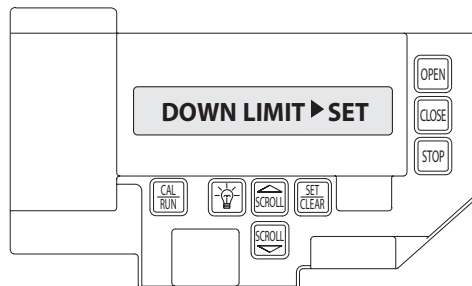

Figure 8
- 4) Press SET/CLEAR  key to switch display to "UP LIMIT>SET " or "DOWN LIMIT>SET ." **Figure 8.**
- 2) Press SCROLL  (up or down) until display reads "UP LIMIT>SET " or "DOWN LIMIT>SET " **Figure 8.**